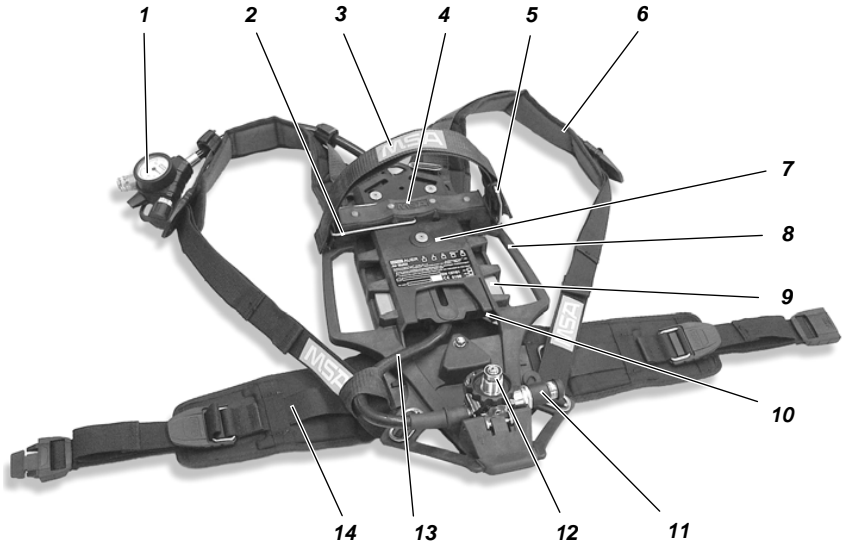
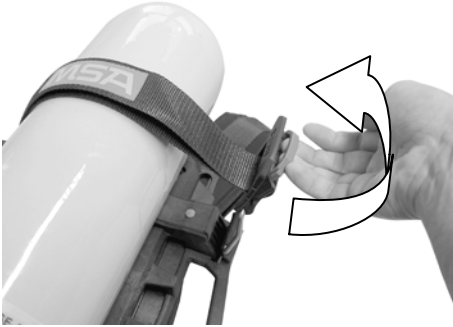

Fig. 1 AirMaxx SL compressed air breathing apparatus
Fig. 8 Removing the compressed air cylinders
- (1) Place compressed air breathing apparatus horizontally so that the back face is uppermost (see Fig. 1).
- (2) Bring cylinder separator (2) into a horizontal position opposite the tension clamp (5) until it catches.
- (3) Check gasket on pressure reducer (12) for proper condition.
- (4) Open tension clamp on cylinder strap eliminating any tension by pulling the separator and extend the strap (see Fig. 8).
- (5) Push compressed air cylinder through the cylinder strap (3) with the cylinder valve toward the pressure reducer, so that it lies on the central support (4).
- (6) Screw cylinder valve onto pressure reducer, if necessary, bring the compressed air breathing apparatus with valve up into a vertical position.
- (7) Tighten cylinder strap at free end.
- (8) Check tight position of compressed air cylinder, retighten if necessary.
- (9) Hinge tension clamp down until it catches.
- (10) Fasten end of the cylinder retaining strap onto Velcro strip.
- (11) Briefly open cylinder valve and check for escaping air, retighten if necessary.
- (1) Place breathing apparatus down in a horizontal position with the back face uppermost (see Fig. 1).
- (2) Hinge cylinder separator (2) into a vertical position until it catches.
- (3) If there is no T-piece connected to the pressure reducer (12), check gaskets on pressure reducer and T-piece and screw in T-piece loosely.
- (4) Open tension clamp on cylinder retaining strap eliminating any tension by pulling the separator and extend the strap (see Fig. 8).
- (5) Push one compressed air cylinder through the cylinder retaining strap so that the cylinder valve points to the T-piece, and lies on one of the outer supports.
- (6) Loosely screw the cylinder valve onto the T-piece.
- (7) Push a second compressed air cylinder through the cylinder retaining strap so that the cylinder valve points to the T-piece, and lies on the other outer support.
- (8) Loosely screw the second cylinder valve onto the T-piece.